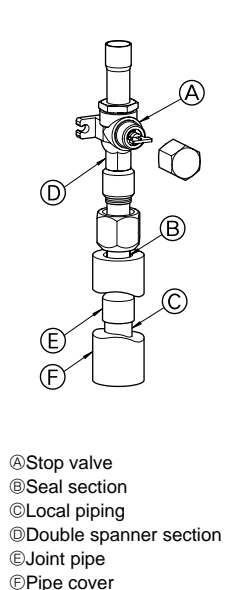

Fig. 4-3
- ③ Use the following procedure for connecting the gas-side piping. (Fig. 4-3)